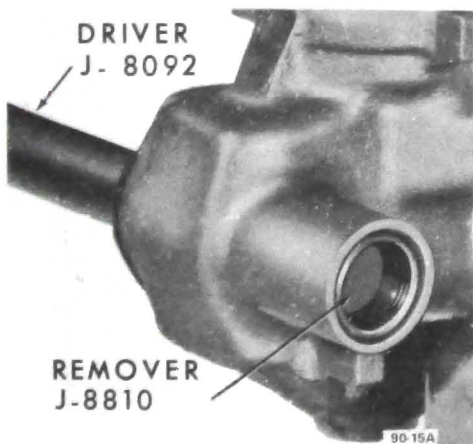

Figure 90-11 Installing Pitman Shaft Bushing
5. Inspect teeth of ball nut and pitman shaft for pitting or scoring which would require replacement of ball nut or pitman shaft. Inspect pitman shaft bushing in housing for excessive wear or scoring. If necessary, remove pitman shaft bushing using Remover J-8810 and driver handle J-8092. Install new bushing using Installer J-8811 with driver handle J-8092. See Figure 90-11.